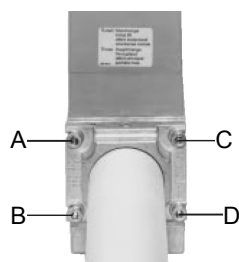
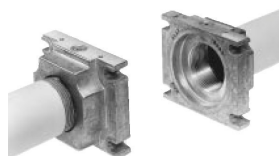

Fig. 10
Fig. 11
3. tighten screws A, B, C and D (Fig. 10 - Fig. 11), according to the mounting positions (Fig. 13);